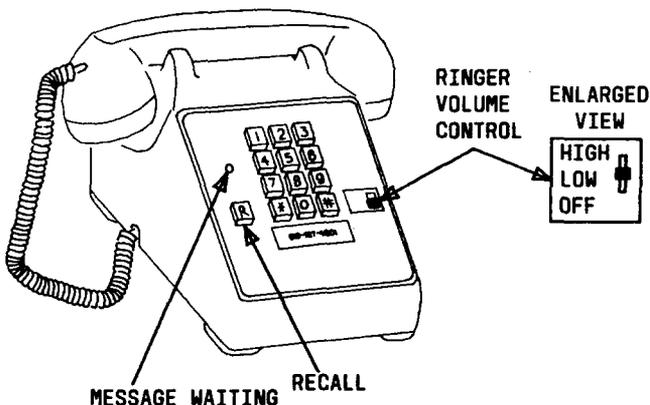

Figure 1. 2500 DMGC Telephone Set
1.01 This practice contains information for the 2500 DMGC analog telephone set (Fig. 1). The 2500 DMGC telephone set is used with DIMENSION®, SYSTEM 85, AND SYSTEM 75 PBXs.